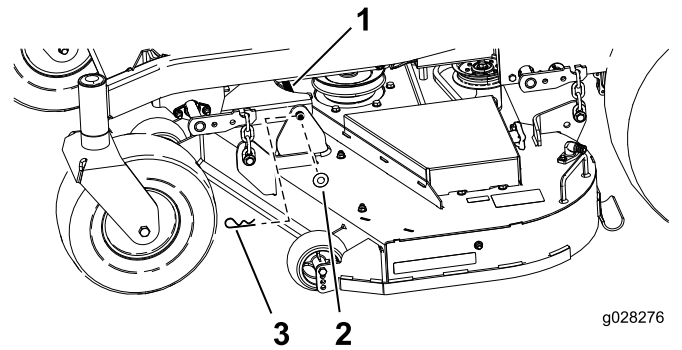

Figure 73
1. Remove the hairpin cotter and washer securing the link pin to the frame and deck, and remove the link bar (Figure 73).
9. Secure the link pin with the hairpin cotters and washers removed previously (Figure 73).